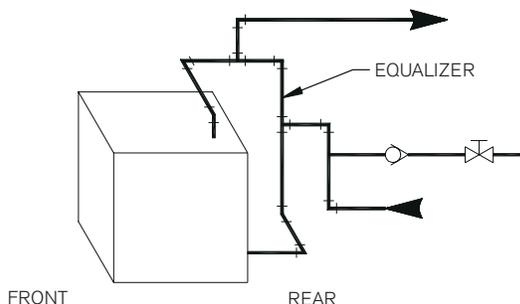

Figure 3.1: Steam Boiler Piping, BB8-03
2. See Figures 3.1 and 3.2. The return from system should always enter equalizer through Hartford Loop, 2" to 4" below normal water line (see dimensional drawing for normal water line).